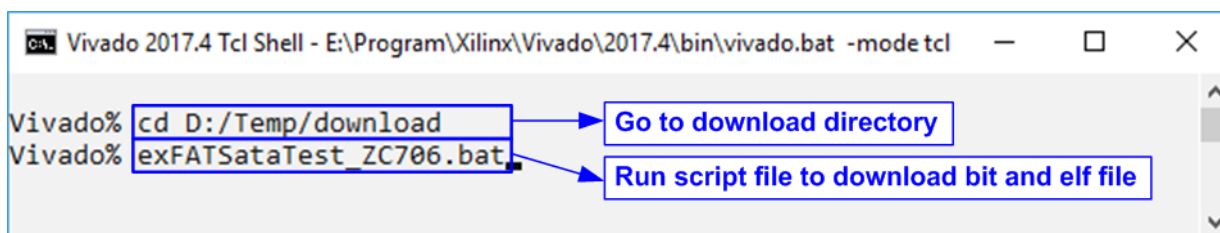

Figure 2-4 Command script for download demo file to ZC706 on Vivado TCL Shell
- 7) Open Vivado TCL shell and change directory to download or directory that batch file is located. Next, type exFATSataTest_ZC706.bat, as shown in Figure 2-4.